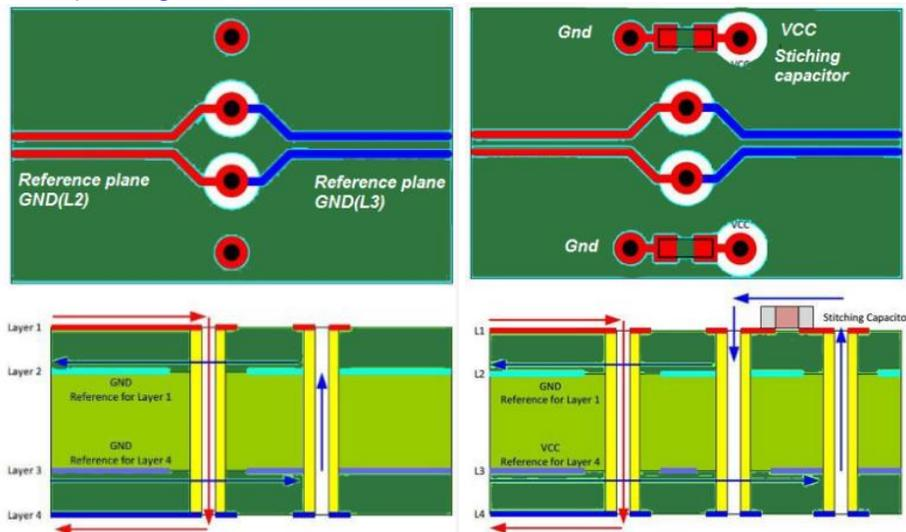

Figure 15.1. Recommended Layout
- High speed signals that transition from one layer to another should have a corresponding transition ground if both reference planes are ground. If the reference on the other layer is a V_{CC} plane, then a stitching capacitor should be used (ground to V_{CC}). See Figure 15.1 for details.